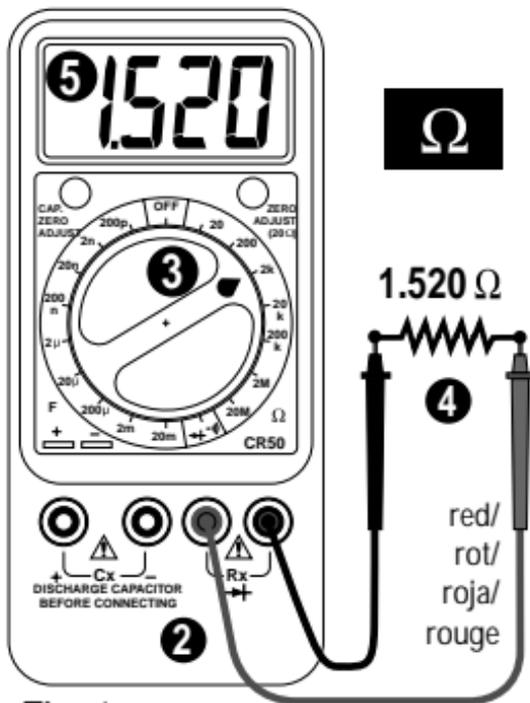

Fig. 1
D • Widerstandsmessung (siehe Fig. 1)
E • Medidas de resistencia (vea Fig. 1)
The Continuity test checks electrical continuity between two contact points. ❶ Set the Function/Range switch to $\rightarrow \leftarrow \bullet \rightarrow$. ❷ Plug the black test lead into the -Rx jack (black) and connect the test lead tip to one of the contact points. ❸ Plug the red test lead into the +Rx jack (red) and connect its test lead point to the other contact point. (See Figure 1 for connections). ❹ The internal beeper emits a tone when resistance is less than approx. 100Ω .